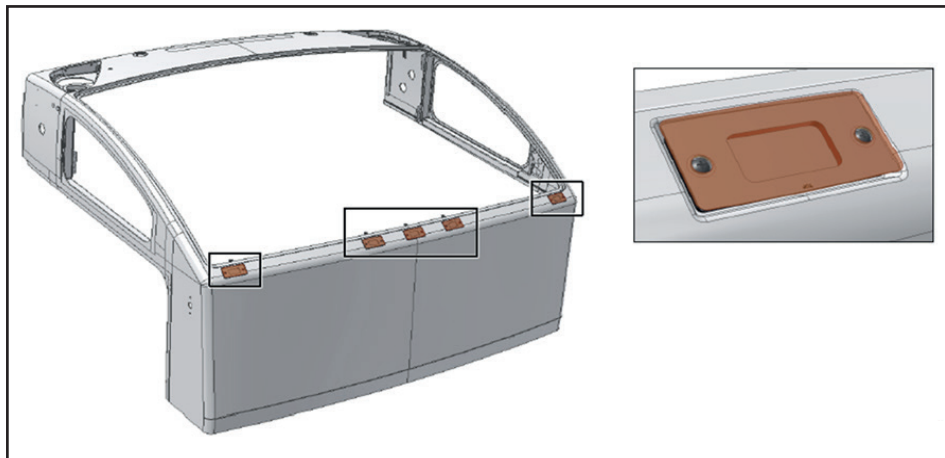

Figure 1 - Location of marker lights
- 1.4. locate marker lights on front of the bus (See Figure 1).